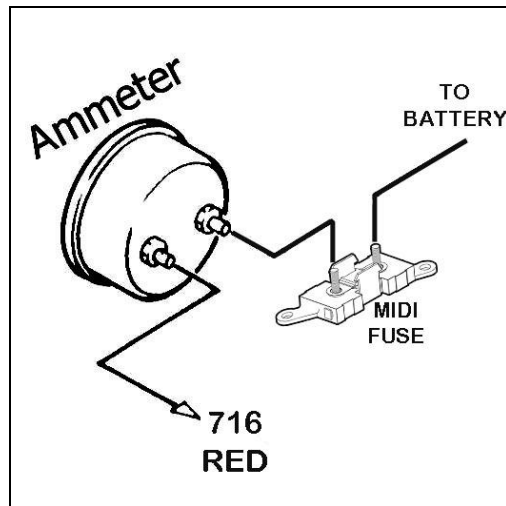

Figure 7.1 Ammeter & Midi Fuse
7.3 Connecting an Ammeter and the Midi Fuse. See Figure 7.1.